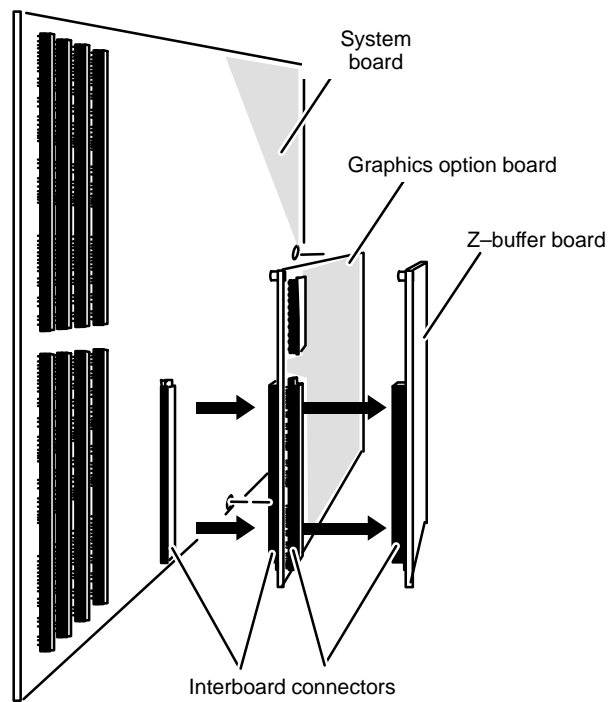

Figure 9-22 Separating the Interboard Connectors
3. Separate the interboard connector on the back of the top board from the interboard connector on the board behind it as shown in Figure 9-22.